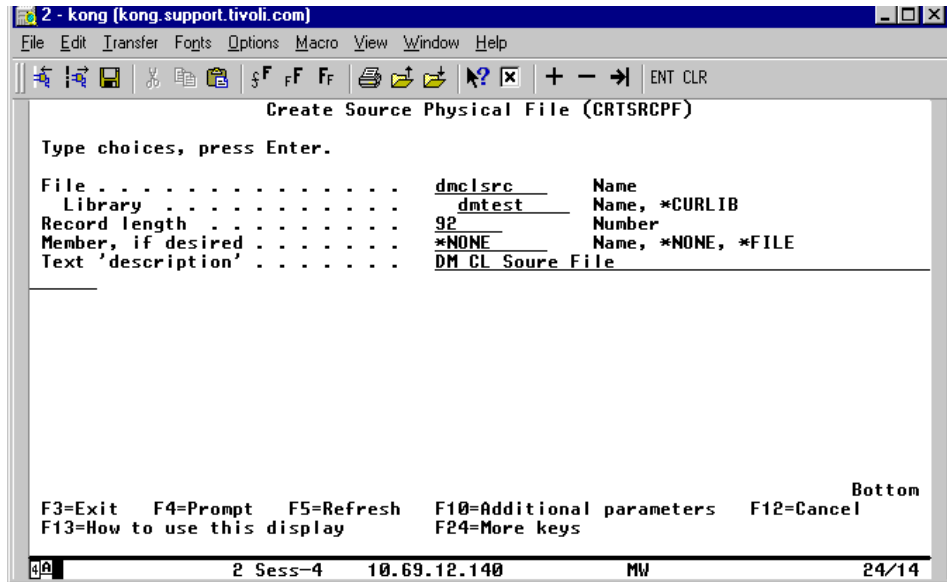

Figure 121. Create source physical file
1. Use the Create Source Physical File command, `CRTSRCPF`, to create a source file in which to place the source for our CL program. As shown in Figure 121, we call our source file `DMCLSRC` and place it in a library we created called `DMTEST`.